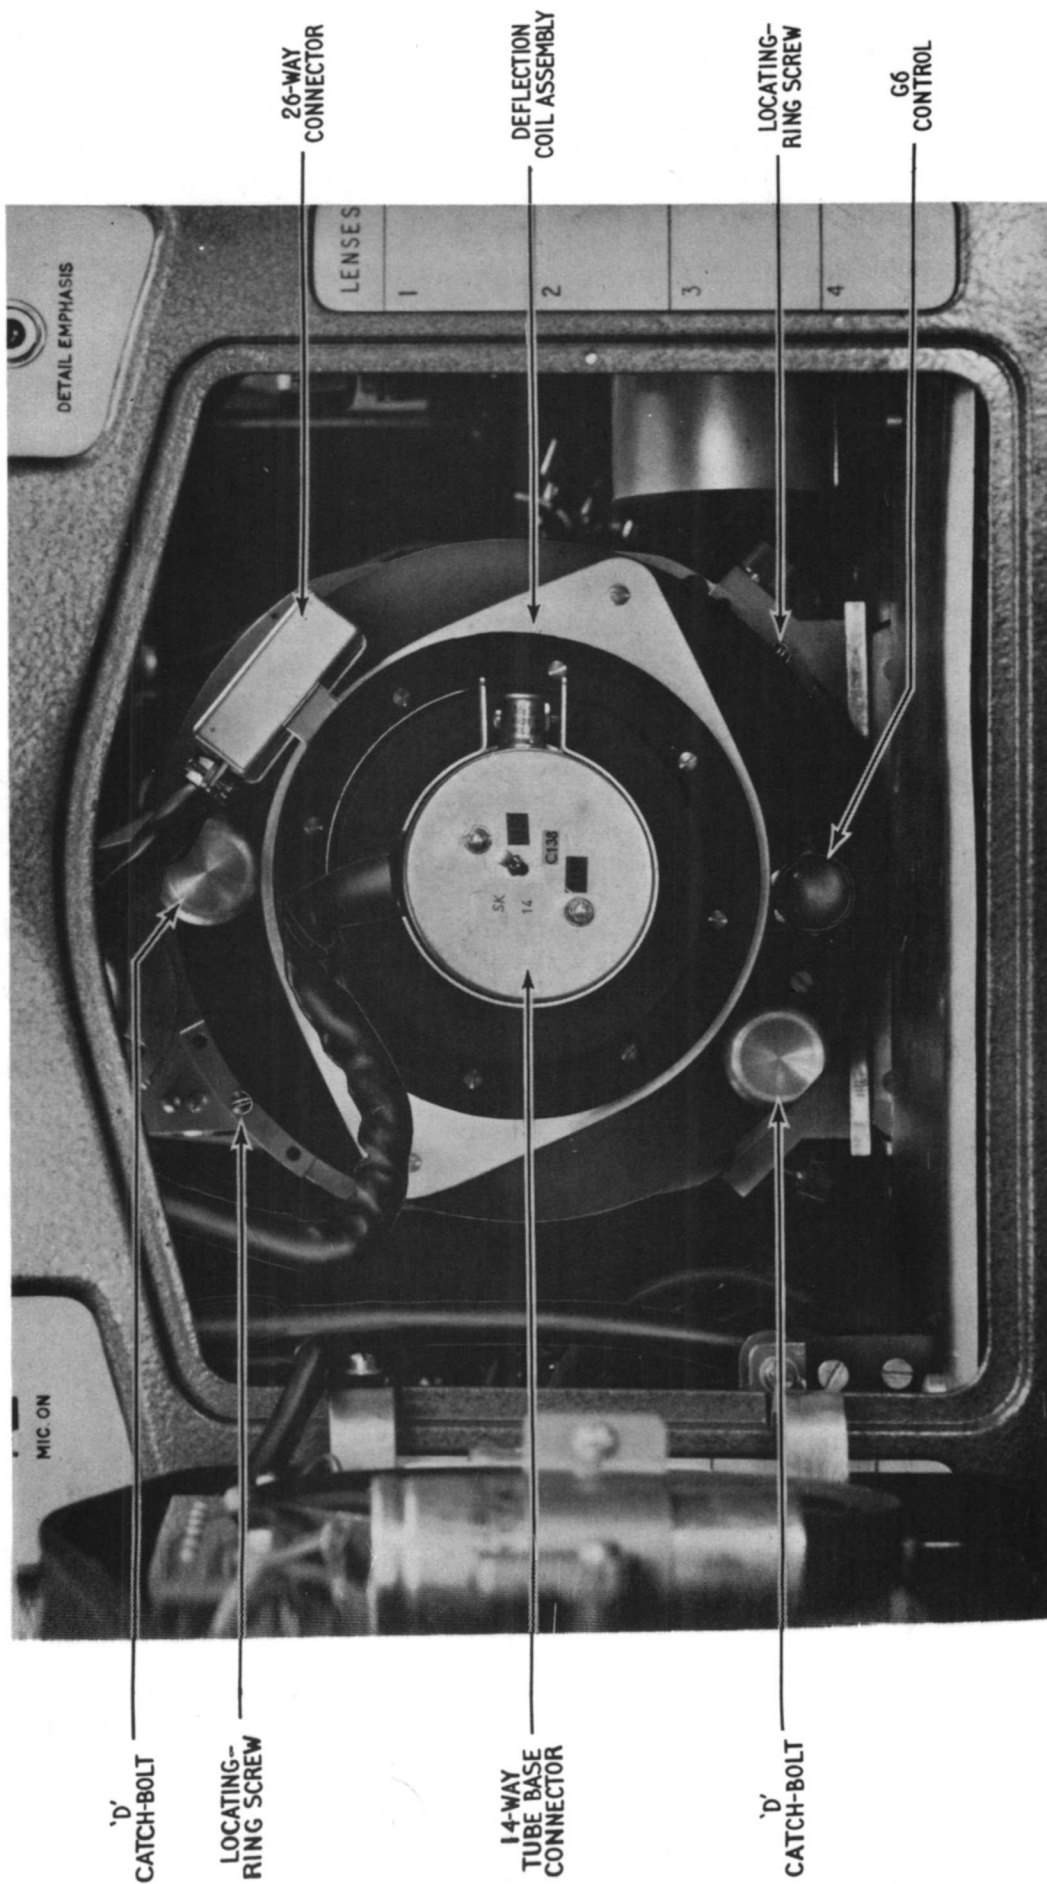

FIG.15 TO FIT IMAGE ORTHICON TUBE (SEE TEXT)
2.4.8 Fitting the Image Orthicon Tube (Fig.15)